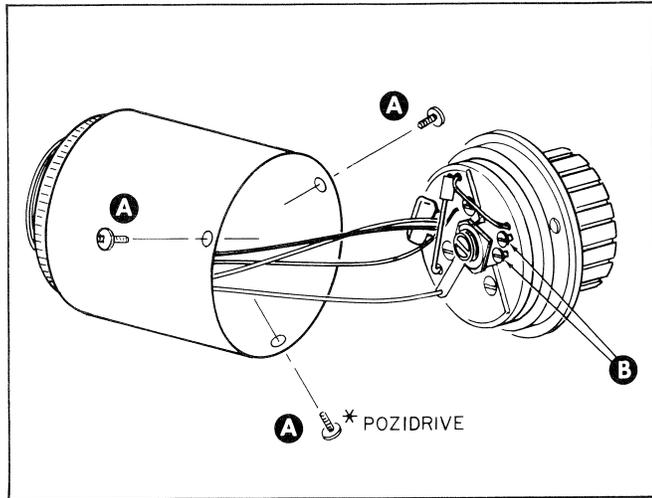

Figure 8. Thermistor Compensation
69. Refer to Figure 8 and proceed as follows:
- a. Remove the three screws (A).